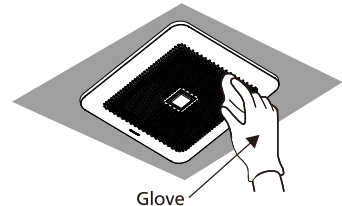

Fig.15
1. Clean grille. (Don't put into hot water. Use non-abrasive kitchen detergent, wipe dry with clean cloth.) (Fig.15)